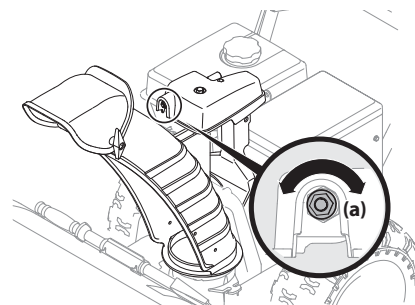

Figure 4-9
1. To increase preload, tighten hex nut (a) clockwise in ¼ turn intervals. The chute control rod will need to be held stationary when tightening the nut. See Figure 4-9.